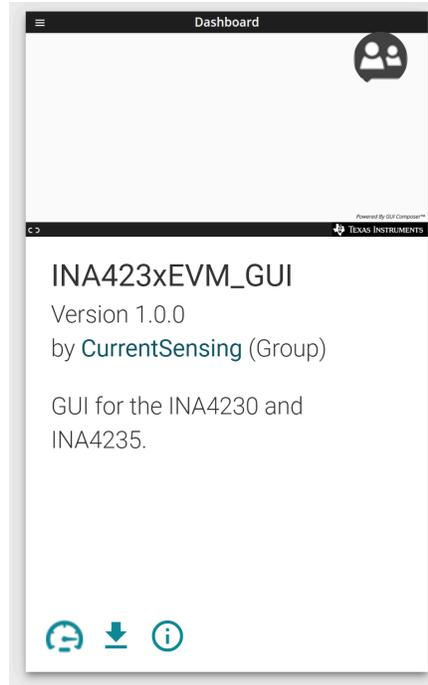

Figure 3-2. GUI Composer Application
3. Open the *GUI Composer* application to launch the GUI from the web browser (see Figure 3-2).
4. To download the GUI for offline use, click the  icon in the *GUI Composer* application and follow the prompts (see Figure 3-2).